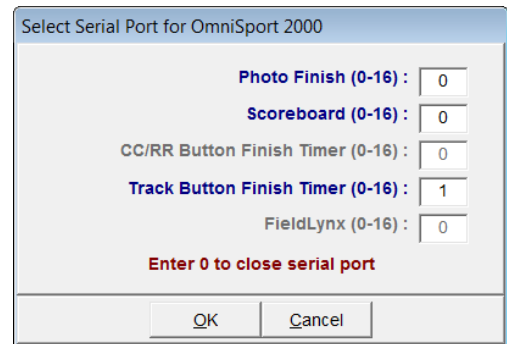

Figure 5: Serial Port for Track Button
6. For the *Track Button Finish Timer (0-16)* option (**Figure 5**), select the COM port number on the Hy-Tek computer connected to the OmniSport, and then click **OK**.